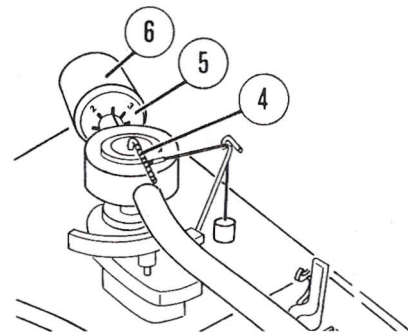

Fig. 5. Justering av stiftrykk og antiskating.
1.5 Balansevekt (fig. 5)
- Monter balansevekten (6) med tallskalaen mot platespillerens front.
1.5 Balance weight (fig. 5)
- Turn the turntable in the playing direction as the start/stop lever (13) is moved to START. The start phase will then begin and the cueing lever will lower itself.
- Hold the weight in position while just the scale ring (5) is turned until the 0 mark corresponds with the mark on the arm. Then turn the balance weight until the scale shows the prescribed stylus pressure, in this case 2.5 g. (The scale goes from 0-4 grams)
1.6 Antiskating-vekt, fig. 5
- Skalaarmen for antiskating (4) har riller, og hver rille representerer 0,5 gram.
- Legg antiskatingvektens nylontråd over bøylen (se fig.) og tre løkken inn på skalaarmen (4).
- Hev (∇), og senk (∇) pickupen med tonearmsløfteren (14).
1.6 Anti-skating weight, fig. 5
- The scale arm for anti-skating (4) has grooves and each groove represents 0.5 gram.
- Lay the anti-skating weight nylon thread over the hoop (see fig.) and thread the loop onto the scale arm (4).